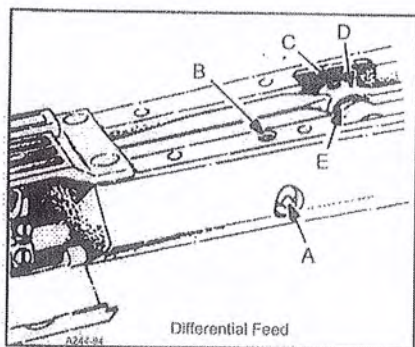
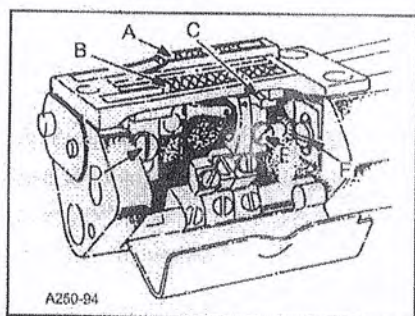

FIG. 10A
FIG. 11A
Before assembling the main and differential feed dogs, set the feed bar eccentric pin (A, Fig. 10A) located in the left side near center of cylinder, so that the slot in the head is in a horizontal position. This assures
a neutral position of eccentricity for the purpose tilting of the main and differential feed bars simultaneously. The feed bar pin is retained in position by set screw(B). Assemble differential feed dog (A, Fig. 11A), main feed dog(B) and throat plate. Both the main and differential feed dogs can be individually adjusted to height. Main feed dog (B) at its highest position, should be set to project above the throat plate, the depth of its teeth. If adjustment is necessary loosen screw(D) and move feed dog (B) up or down to attain correct setting. Feed dog support(C) should support front of feed dog.
If adjustment is necessary loosen screw(E, Fig. 11A) in feed dog support(C) and move as required. Retighten screw(E). The differential feed dog (A) may then be leveled with main feed dog (B). If adjustment is necessary loosen screw(F) and move feed dog up or down as required. Retighten screw(F).
NOTE: Should the main feed dog require repositioning due to contact with the throat plate in its forward or rearward travel, loosen set screw(C, Fig. 10A) in main feed bar driving link(D), rotate main feed bar eccentric driving stud(E) as required. Driving stud(E) has a thin hexagon head with cutouts on two of the flats allowing movement by tapping with a sharp pointed tool, when wrench 21388AZ is not available. Whenever the main feed bar eccentric driving stud position has been changed, recheck rear needle guard setting, adjustment may be required. Retighten set screw(C). Position main feed dog support(C, Fig. 11A) flush against bottom of main feed dog (B), tighten support screw(E) securely.